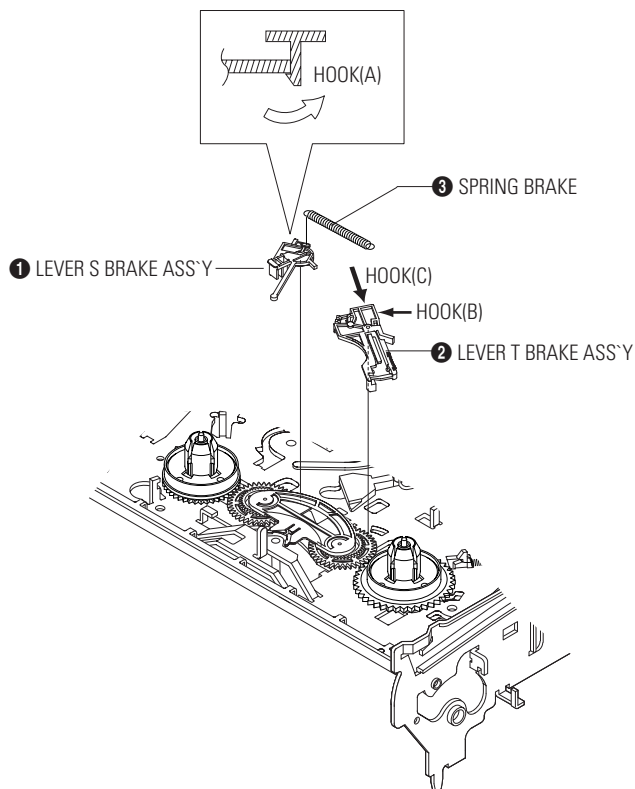

Fig. 1-18 Lever Brake S, T Ass'y Removal
- 1) Remove the Lever Brake S Ass'y (Refer to Fig 1-18).
- 2) Remove the Spring Tension Lever ❶.
- 4) Lift the Lever Tension Ass'y ❷ & Band brake Ass'y ❸.
- 1) Release the Hook [A] and the Hook [B], [C] in the direction of arrow as shown in Fig 1-18.
- 2) Lift the Lever S, T Brake Ass'y ❶, ❷ with spring brake ❸.